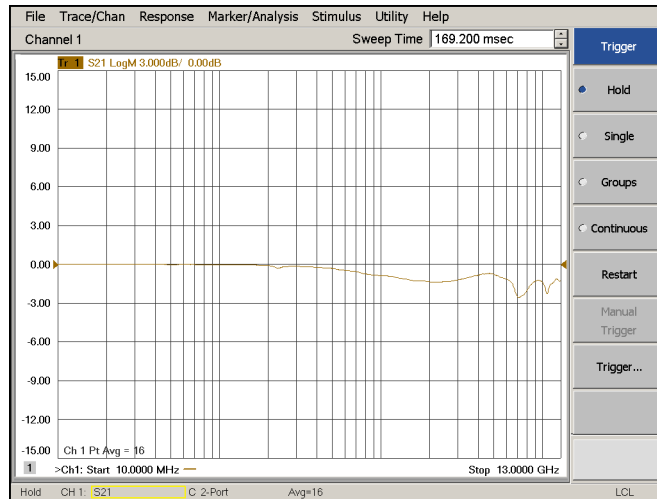

Figure 48  $V_{in}$  Response
**18** On the VNA, press **[Trigger] > Single** to trigger a single sweep. The display should look similar to **Figure 48** on page 69.